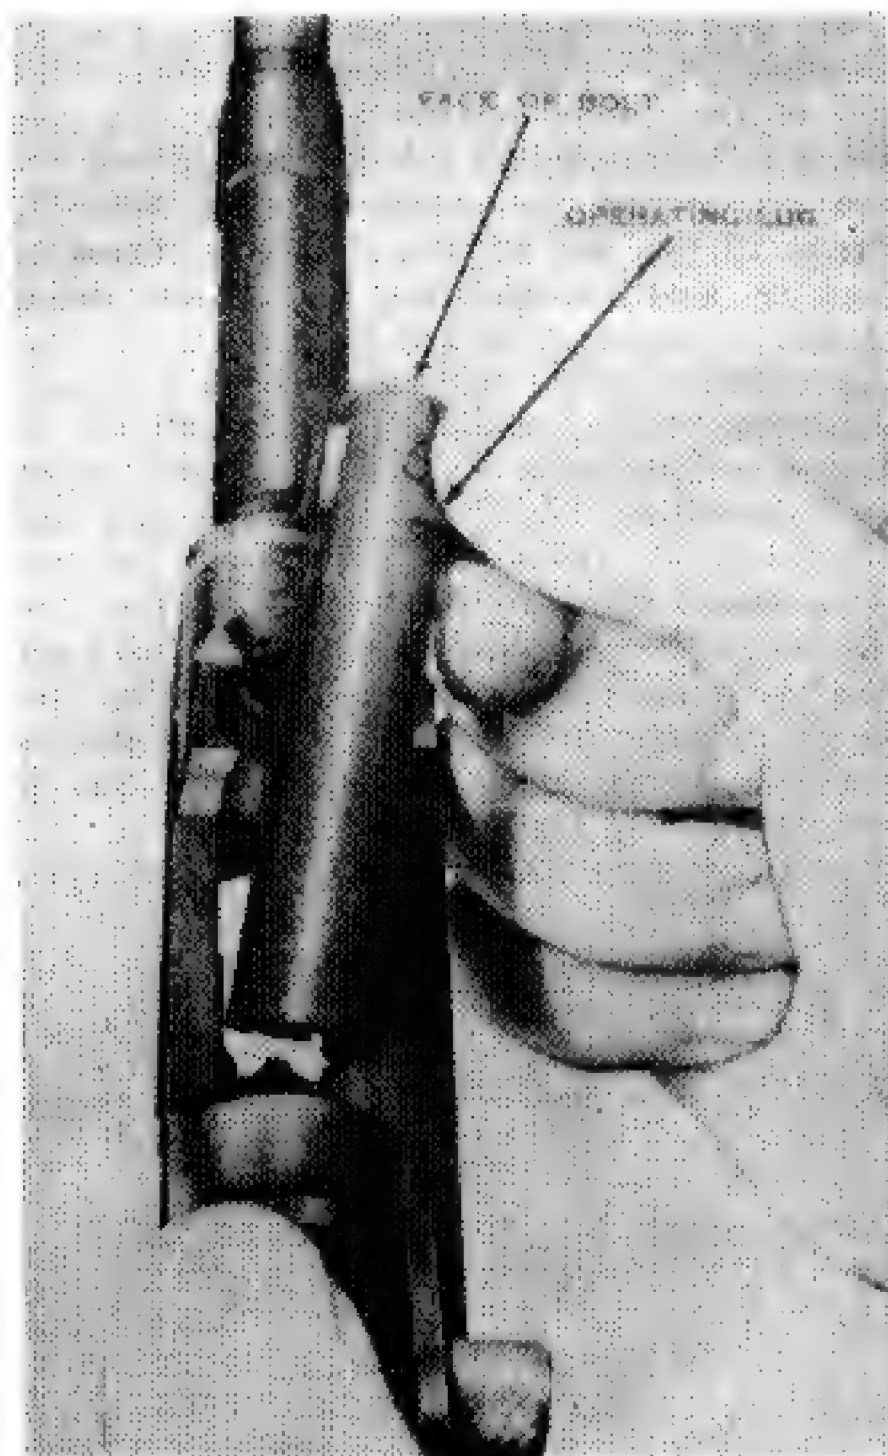

Figure 13. Removing the bolt.
k. Hold the carbine as in *j* above. Grasp the operating lug of the bolt with the right thumb and forefinger and draw the bolt to the rear until its face is just back of the locking recesses. Rotate the bolt to the left until the operating lug is straight up, disengaging the left locking lug on the bolt. Then rotate the bolt to the right until it is level. Raise the bolt to an angle of about 45 degrees and remove it from the receiver (Fig. 13).